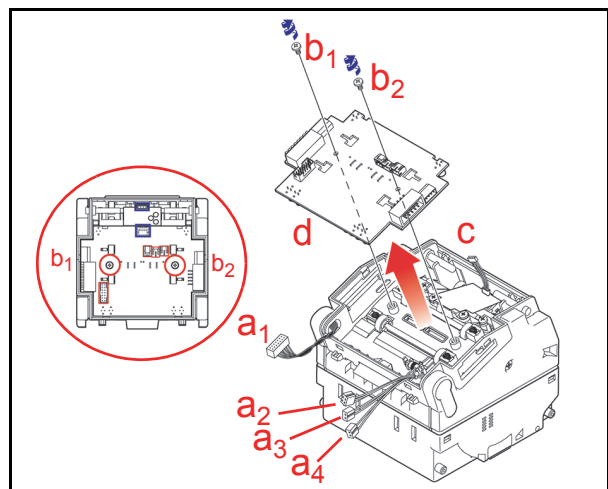

Figure 4-3 Taiko CPU Circuit Board Removal
2. Unplug the four (4) Harness Connectors from the CPU Circuit Board (See Figure 4-3 a₁ to a₄).
3. Remove the two (2) Self-tapping Circuit Board Mounting Screws (See Figure 4-3 b₁ & b₂) retaining the Board in place.
4. Remove the Harness Connector (See Figure 4-3 c) located under the CPU Circuit Board (See Figure 4-3 d) and lift the CPU Circuit Board up and off the Assembly in the direction indicated by the Large Arrow in Figure 4-3.